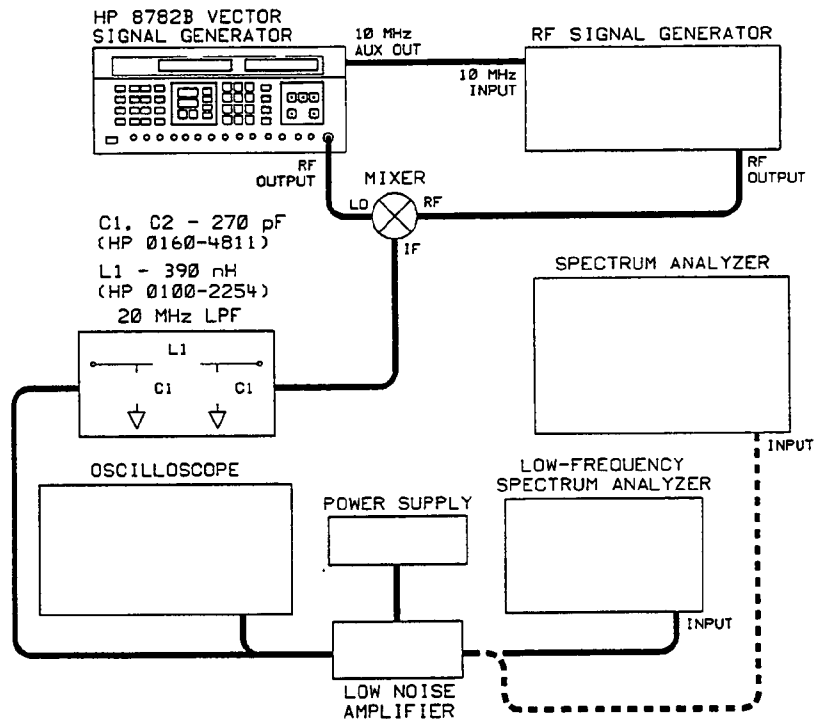

Figure 5-7. Residual SSB Phase Noise Test Setup
20 MHz Low Pass Filter	See Test Setup Figure 5-7.
1. Connect the equipment as shown in Figure 5-7.